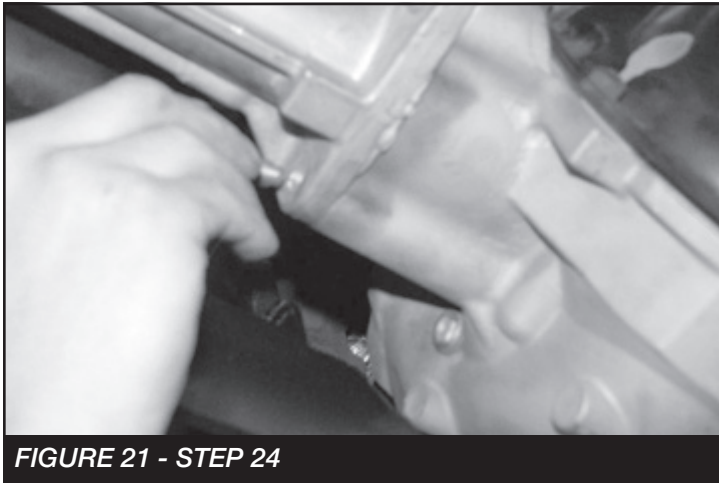

FIGURE 21 - STEP 24
24. Remove the center differential housing bolts on the back side of the differential. **SEE FIGURE 21**